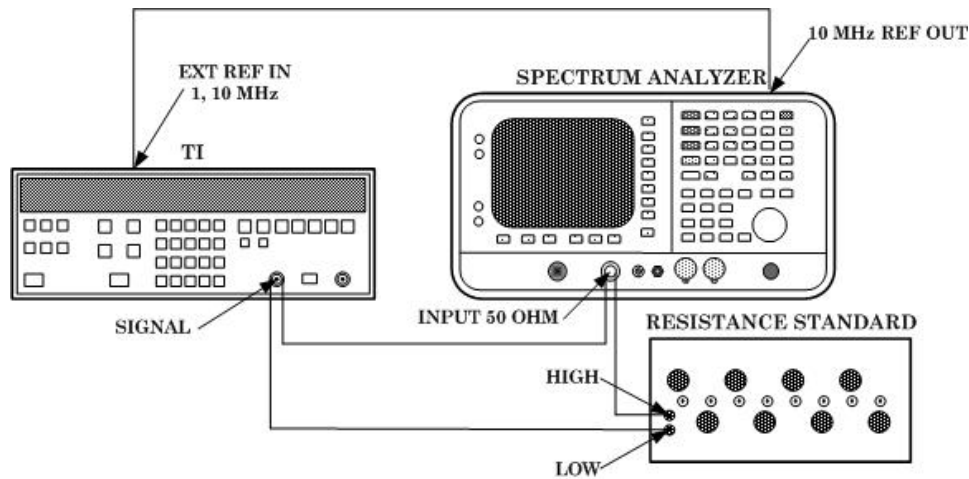

Figure 1. Harmonic distortion - equipment setup.
- (8) Enter **100 kHz** using TI **DATA** keys. Adjust spectrum analyzer controls to display 100 kHz fundamental and at least four harmonics. All harmonics will be at least 60 dB below fundamental.
- (9) Enter **40 kHz** using TI **DATA** keys. Adjust spectrum analyzer controls to display 40 kHz fundamental and at least four harmonics. All harmonics will be at least 65 dB below fundamental.
- (10) Disconnect TI from spectrum analyzer.
- (11) Connect TI **SIGNAL** to audio analyzer **INPUT HIGH** using 50 Ω feedthrough termination.
- (12) Press keys and enter values using **DATA** keys as listed in (a) through (c) below:
(13) Set audio analyzer to measure distortion in dB. Audio analyzer indication will be  $\leq -65$  dB.
(14) Perform (15) through (19) below for option 002 only.
(15) Connect equipment as shown in figure 1 and set resistance standard to 470  $\Omega$ .